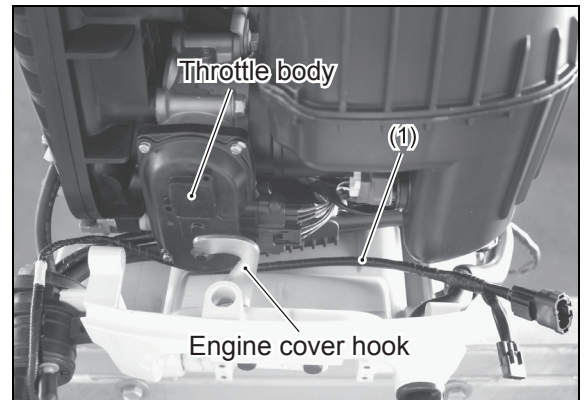

Fig. 1
3. Lay out the engine adapter wire (1) as shown in Fig. 1.